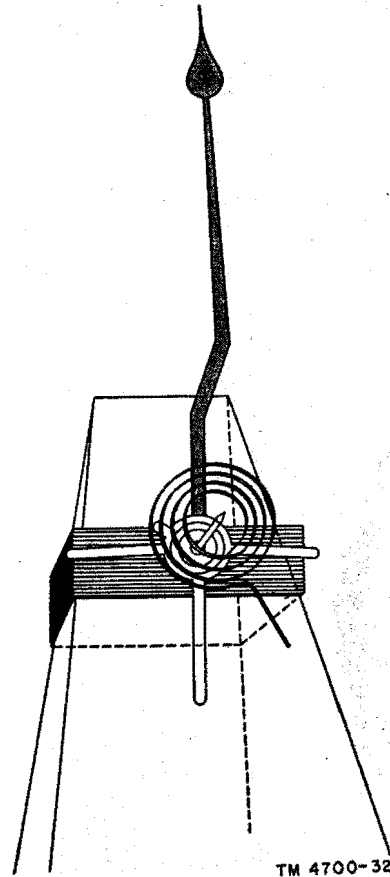
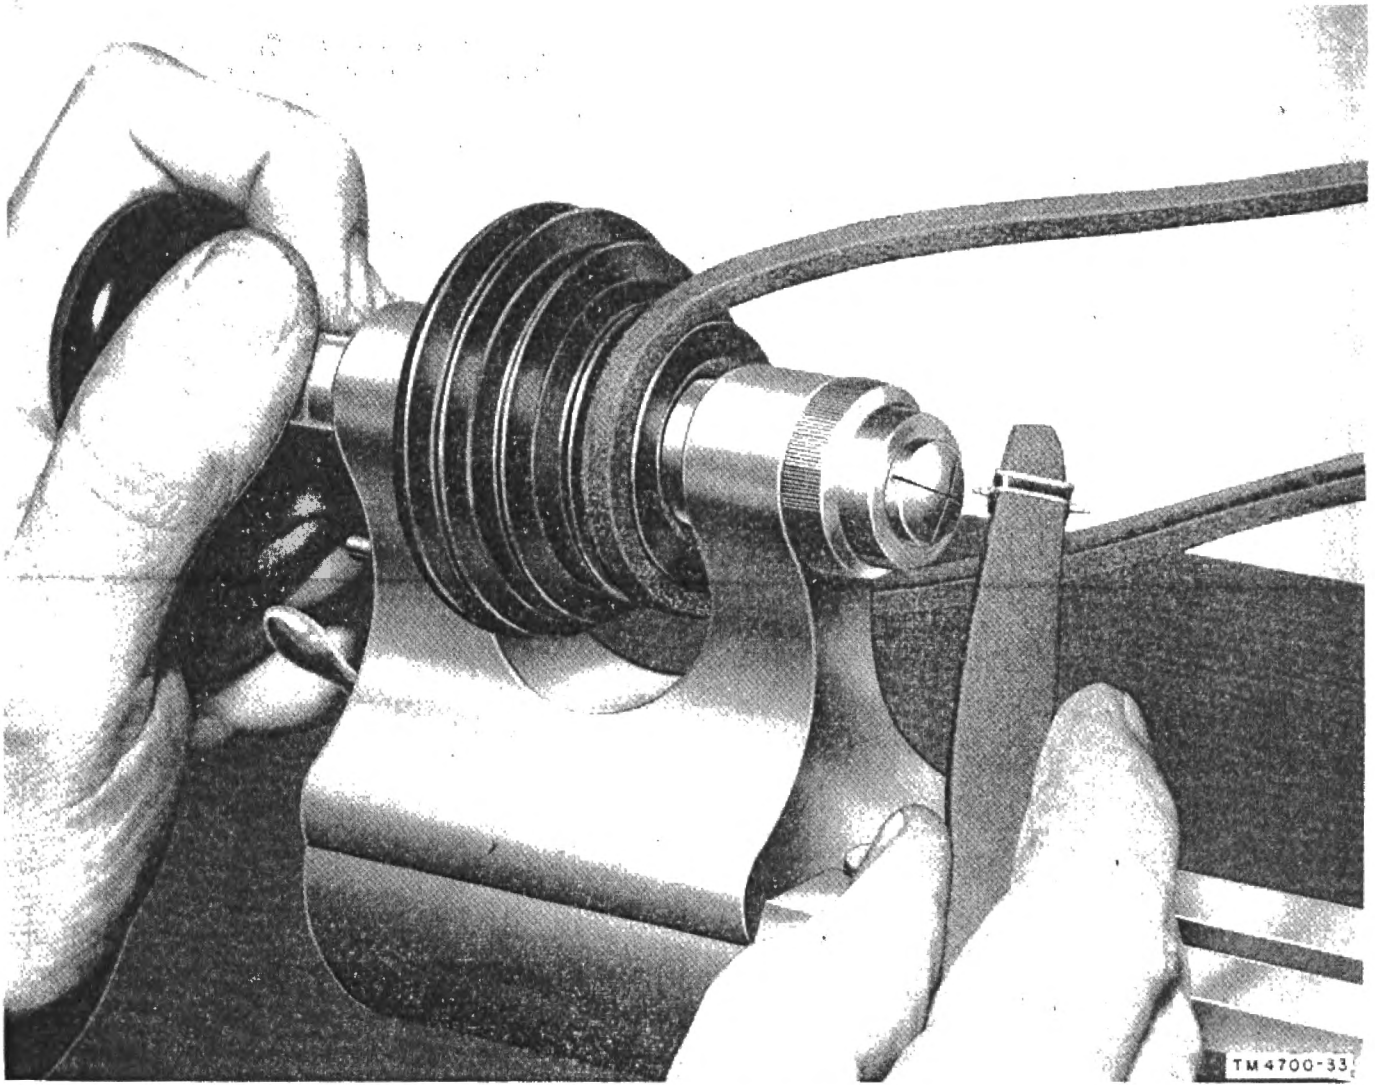
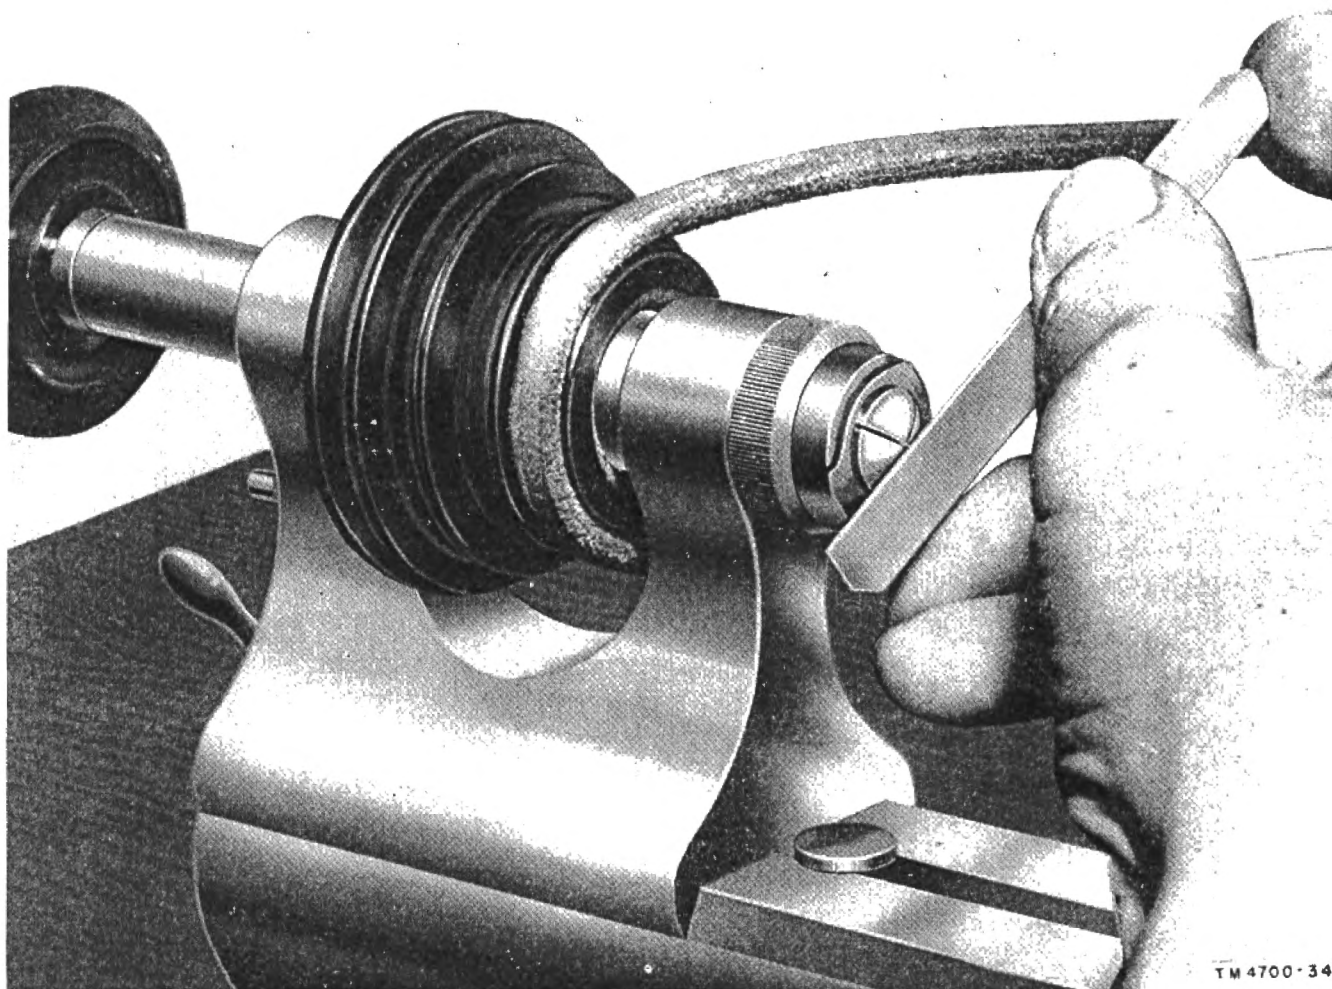

Figure 34. Movement mounted on formed mandrel.
Figure 35. Proper method of removing pivot.
Figure 36. Correct method of holding the polishing stone.
- (1) *General.* Meter pivots, which are made of hardened steel or some other very hard material, are mounted either on the outside or on the inside of the moving coil. They are capable of withstanding considerable wear and tear. The pivots are shaped to fit into jeweled bearings with a minimum of end and side play.
- (2) *Rough or flattened pivots.* Rough or flattened pivots are a serious source of trouble in meters. In the D'Arsonval type movement, the pivots are removable. To polish a pivot, proceed as follows: Place the moving element, including the coil, spring, pointer, and pivots, over a formed bakelite or wooden mandrel (fig. 34) shaped to fit the coil. Insert the end of the pivot in a lathe. *Be sure to use a chuck of the proper size.* Slowly turn the lathe by hand until the pivot is held tightly. Continue to turn the lathe by hand, and pull straight back on the formed mandrel very gently. The pivot will pull out of the pivot base. Remove the pivot from the chuck with a pair of tweezers (fig. 35), insert the reverse end, and retighten the chuck. Using either an India or Arkansas polishing stone (fig. 36), slowly turn the lathe so that the pivot rotates evenly, and proceed to polish the end of the pivot. Use jeweler's rouge to complete the polishing. To replace the pivot after it is polished, reverse the procedure for removing it. *Be careful not to bend the damping coil or to injure the springs.*